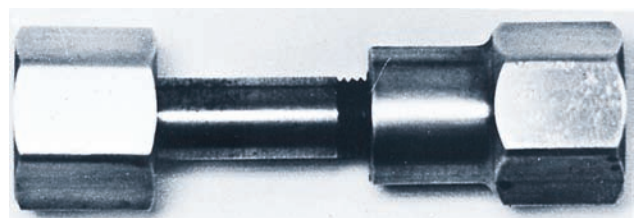

FIGURE 3-8 Carbon dioxide-to-argon adapter. Courtesy of Larry Jeffus.
ment methods are: (1) adapt a left-hand male acetylene cylinder fitting to a right-hand female regulator fitting, or vice versa, and (2) adapt an argon or mixed gas male fitting to a female flat washer type CO_2 fitting, Figure 3-8.